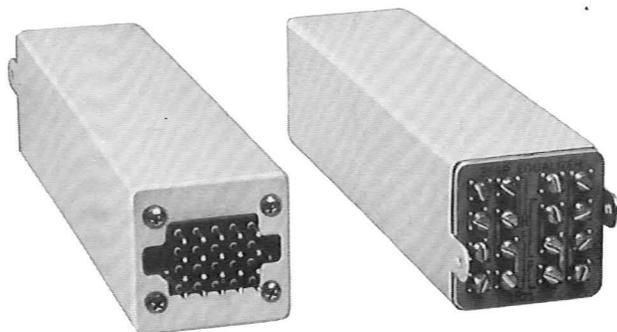

Fig. 1—359P Equalizer
1.01 This section describes the 359P equalizer, which is a plug-in apparatus unit designed for use in V4 telephone repeater applications (Fig. 1).
2.01 The 359P equalizer (Fig. 1) is a plug-in unit equipped with a 20-pin connector plug and is designed to be plugged directly into the equalizer connector socket of the repeater mounting shelf.